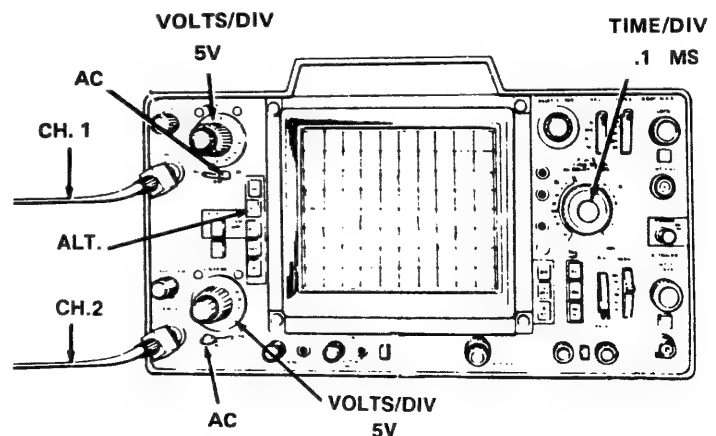

Figure 3-6.3C
9. Set the Oscilloscope Controls as shown in (Figure 3-6.3C).